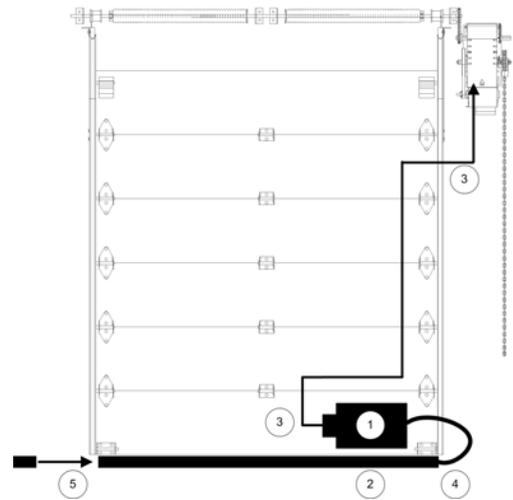

Figure 34 - Reversing Edge
1. Place the air switch in position, refer to Figure 34.
1. Place the junction box in position, refer to Figure 34.